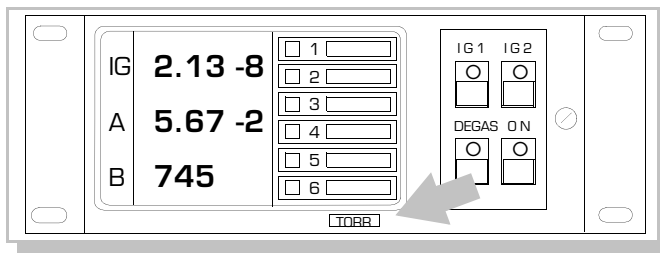
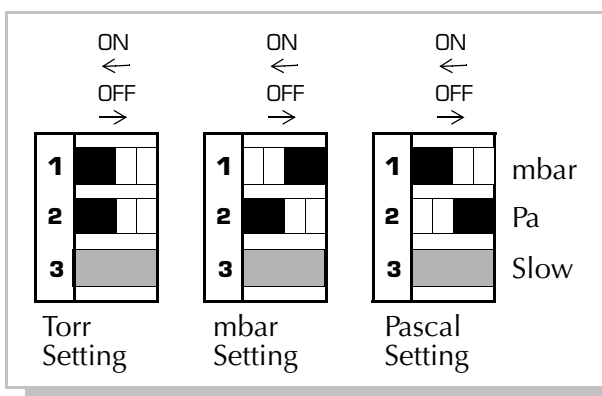
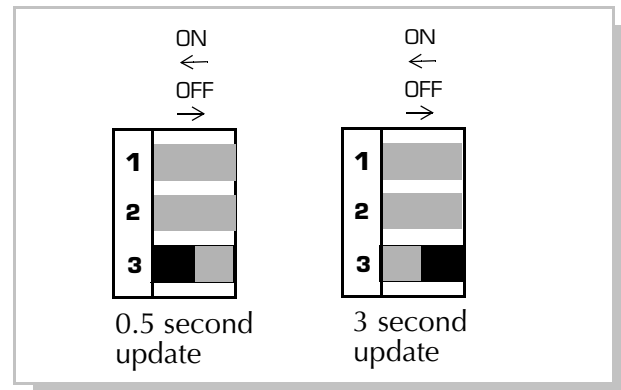

Figure 2-2 Control Unit Front Panel Showing Location of Units of Measure Label.
Figure 2-5 *Pressure Display Units of Measure Switch Settings.*
Figure 2-8
2. If none of the above options are present and if the pressure display units of measure are correct (See Figure 2-2.), and you do not wish to change the degas timer from the factory setting of 10 minutes, skip to Chapter 3 Installation.
1. Skip to Section 2.1.3 on page 2-4 if units of measure are as desired. See Figure 2-2 and Figure 2-5.
- 2.** If you wish to change the pressure display units of measure, change the settings of the units of measure switches on the Electrometer module, and on the Dual Convectron Gauge module if present, as shown in Figure 2-5.
1. Skip to Section 2.1.4 on page 2-5 if units of measure are as desired. See Figure 2-2 and Figure 2-8.
2. If you wish to change the pressure display rate of update, change the setting of the rate of update switch on the Electrometer module, and on the Dual Convector Gauge module if present, as shown in Figure 2-8. Setting this switch "ON" will enable pressure averaging. The display will update about every three seconds with the switch "ON," and 0.5 seconds with the switch "OFF."